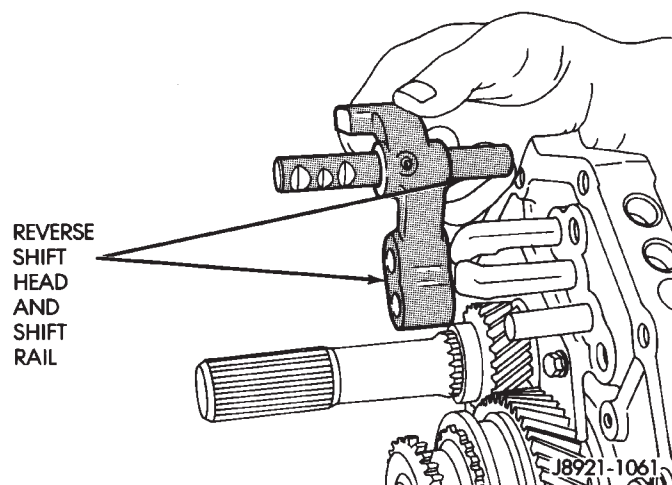

Fig. 31 Reverse Shift Head And Rail Removal
(11) Remove reverse shift rail and reverse shift head as assembly (Fig. 31).